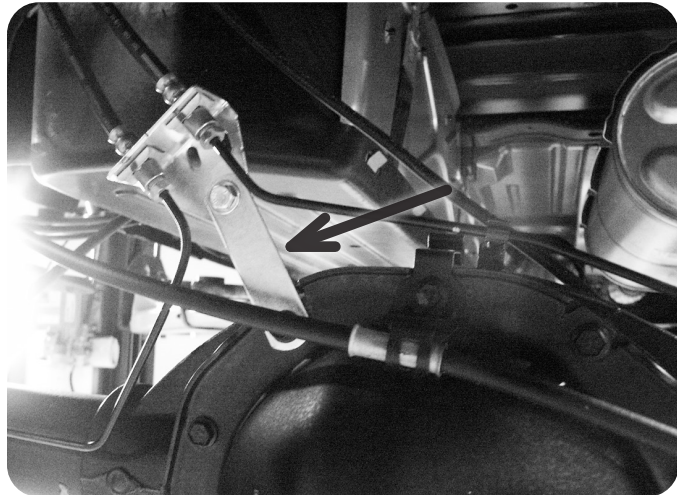

Figure 27
15. Install the provided straight 3" brake line bracket to the top of the differential using factory mounting hole and bolt which must be removed from the factory brake line bracket. Attach the factory brake line bracket to the relocation bracket with a 5/16" x 1" bolt, nut and washers. Torque the factory and 5/16" bolt to 20 ft-lbs Figure 27.